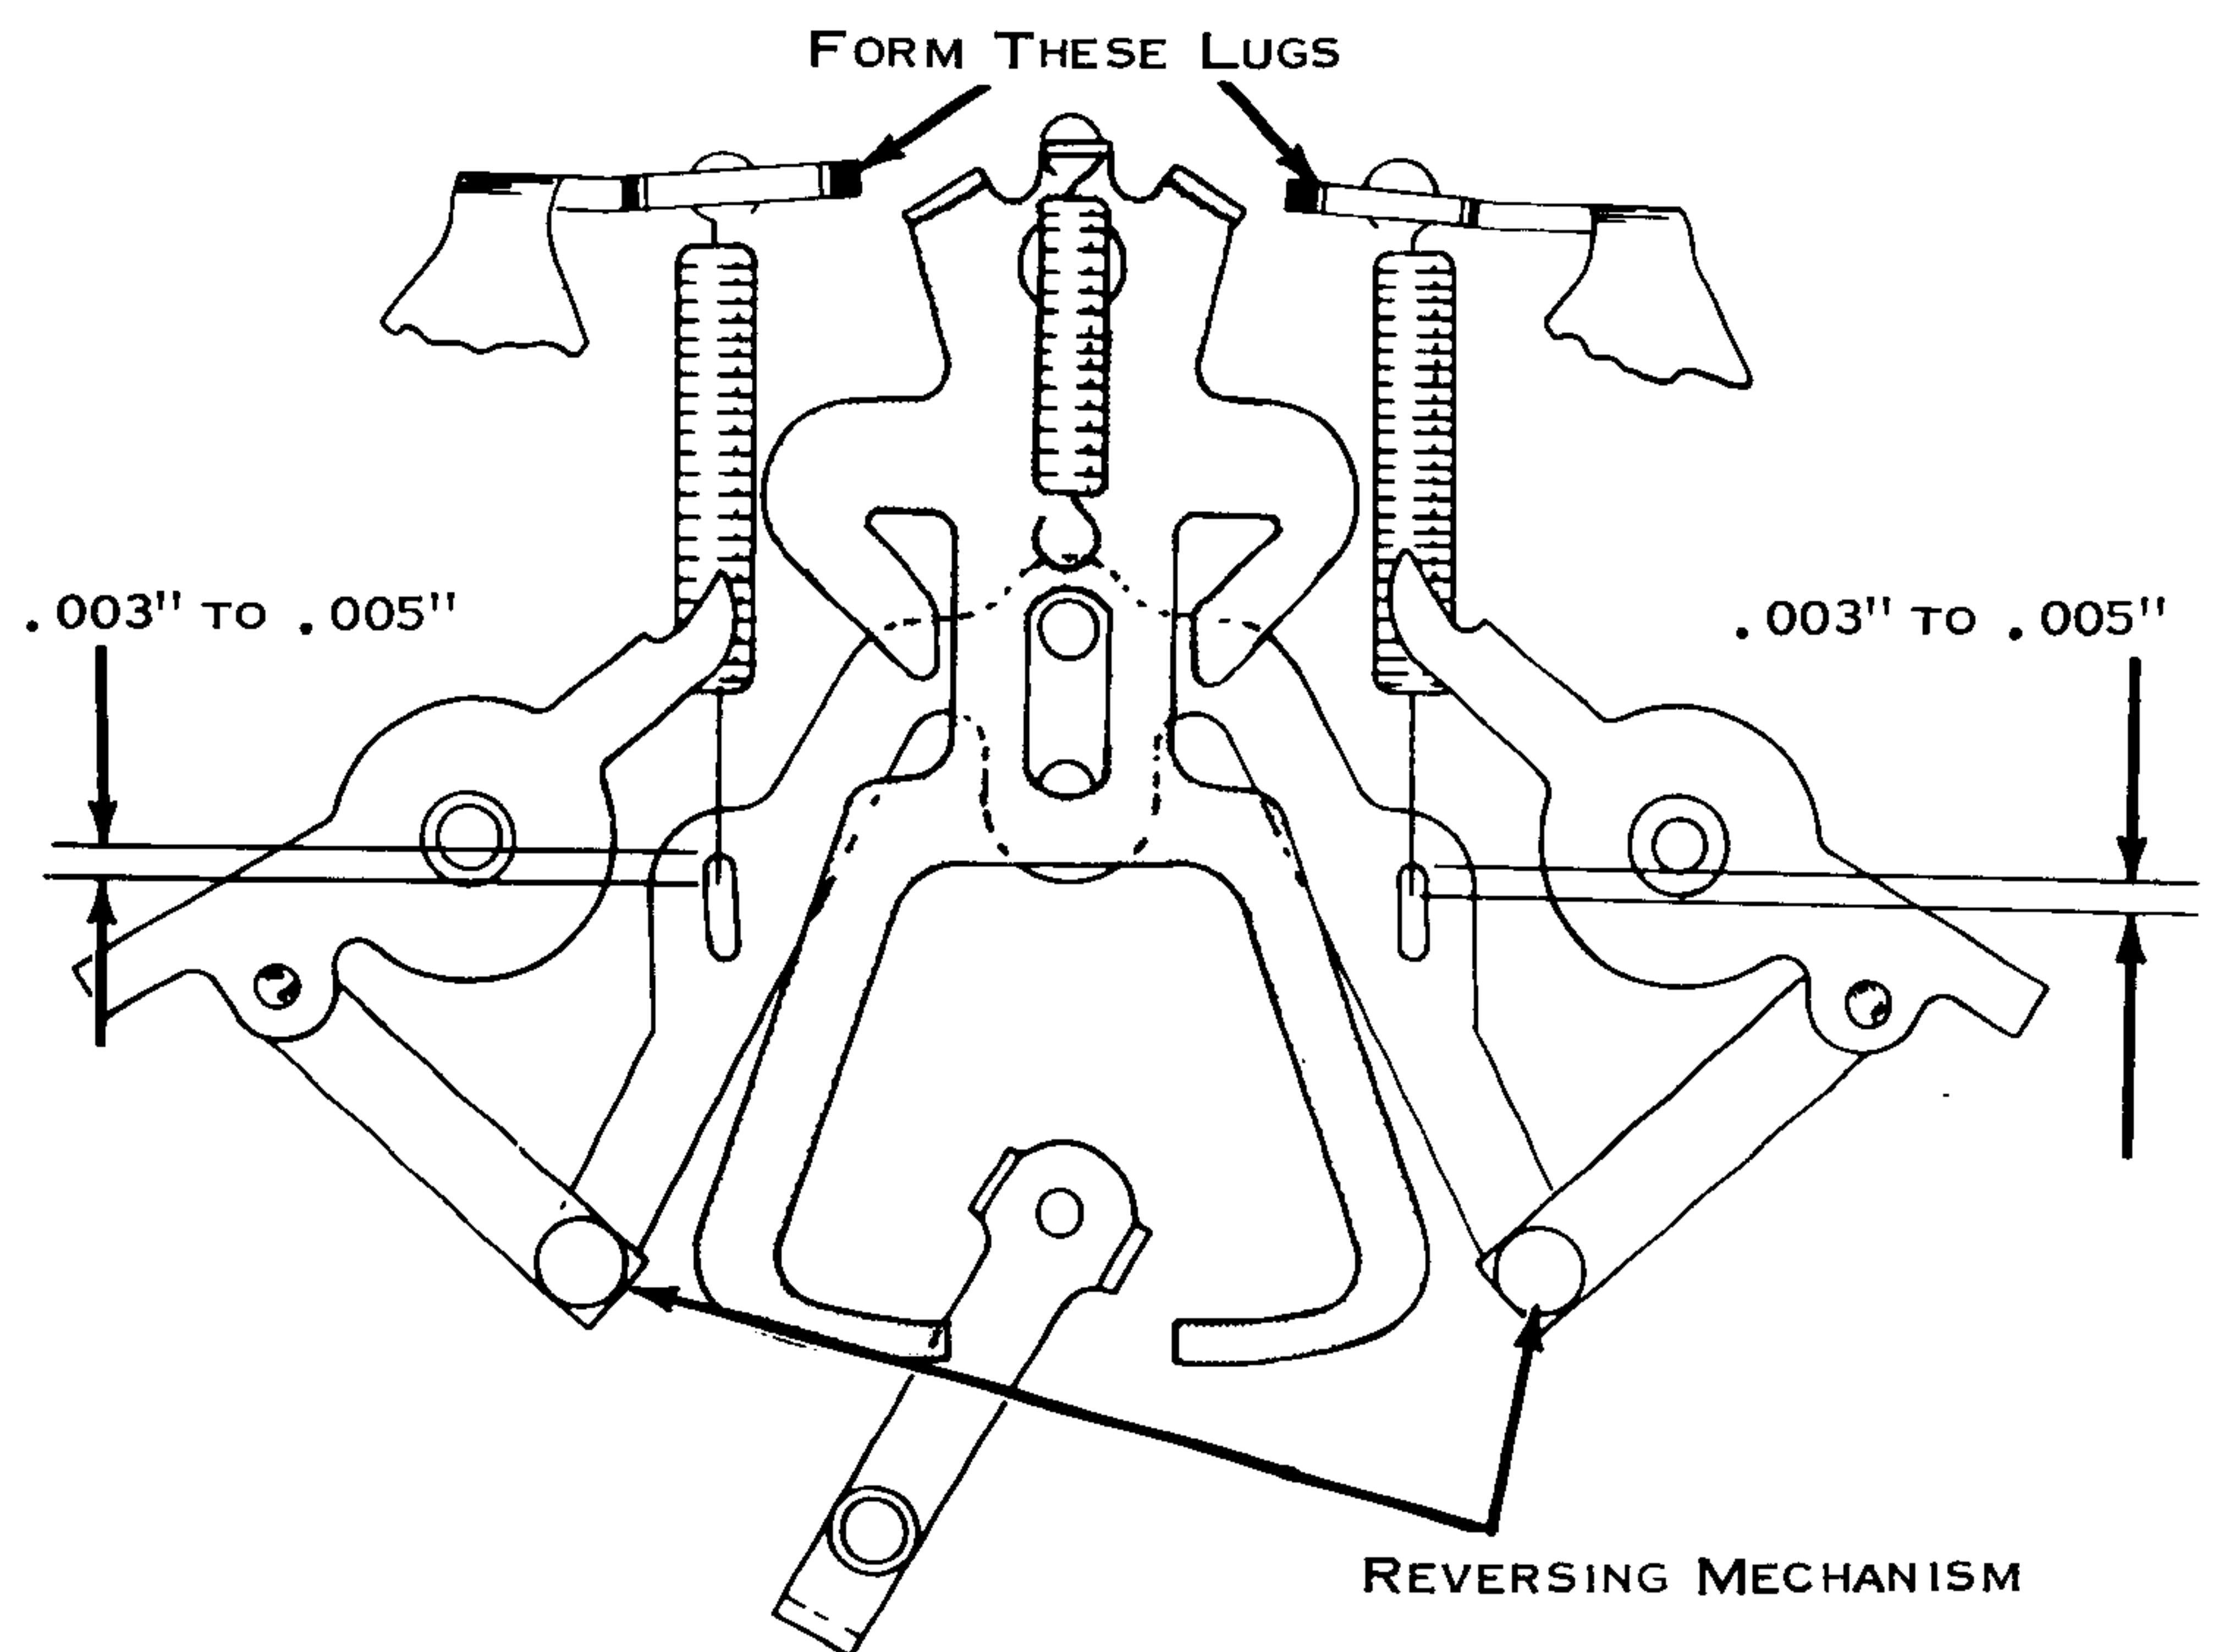

Figure 206. Centering Springs
1. Centering Springs (Fig. 206) - With the ribbon reverse interposer centered, form the lugs on the ribbon feed plate for .003" to .005" clearance in the centering spring loops.